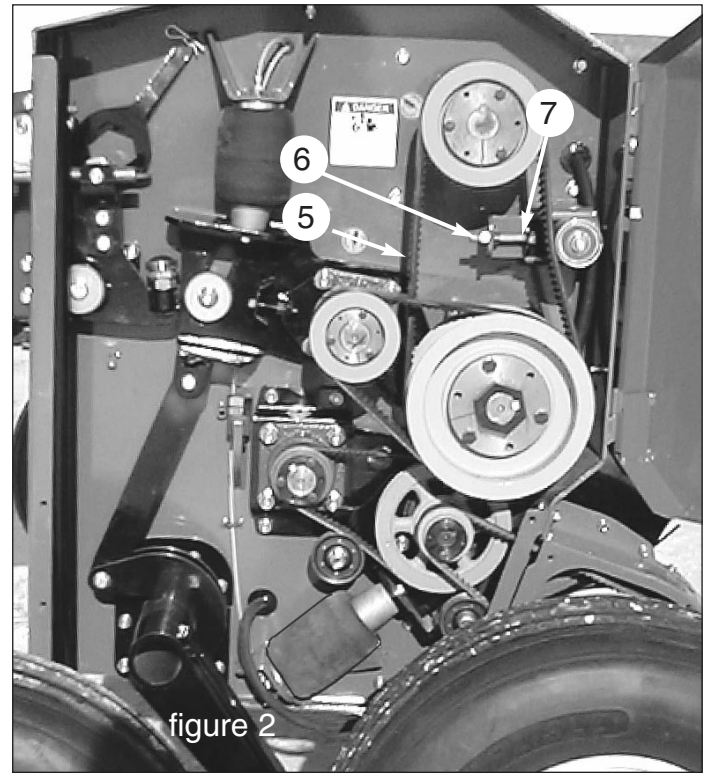

figure 2
5. Reassemble hub and bearings. ( figure 2 )